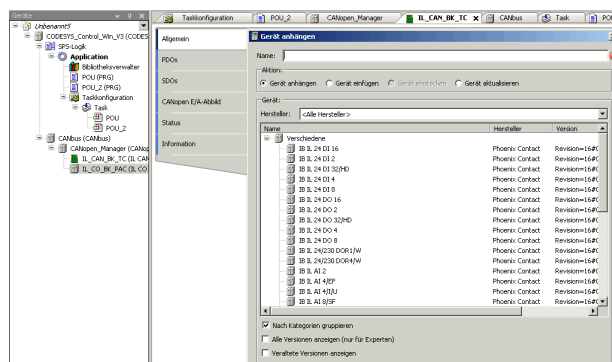

Figure 2 Inserting connected modules
- Insert the connected modules, see Figure 2. The mapping is then created automatically.